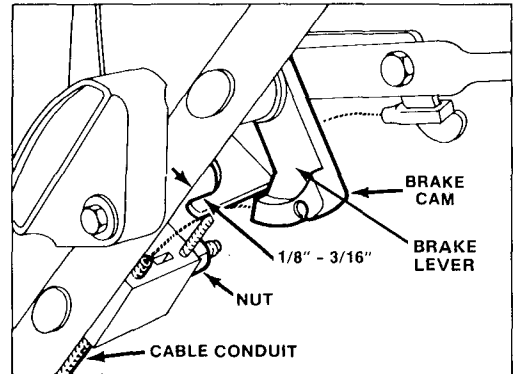

Figure 15
2. CHECK ADJUSTMENT (Fig. 15) — Move control bar toward handle until slack in wire is removed. Gap between brake lever and handle must be $1/8''-3/16''$. See step 3 for adjustment.
3. ADJUST CABLE CONDUIT — Loosen nut on cable bracket (Fig. 15). Insert $1/8''-3/16''$ object between brake lever and handle and pull down on cable conduit until slack is removed. Then tighten nut.